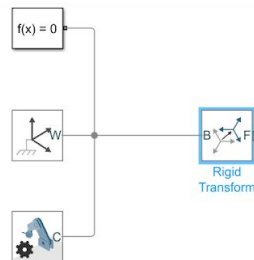

Figure 2: Connecting world frame node to base node
- a) Connect the world frame node to the base node of the first Rigid Transformation (Figure 2). To create a connection, click a port, terminator, or line segment, and then click a compatible, highlighted model element. The first transformation should be a 90 degree rotation in the $+Y$ axis.